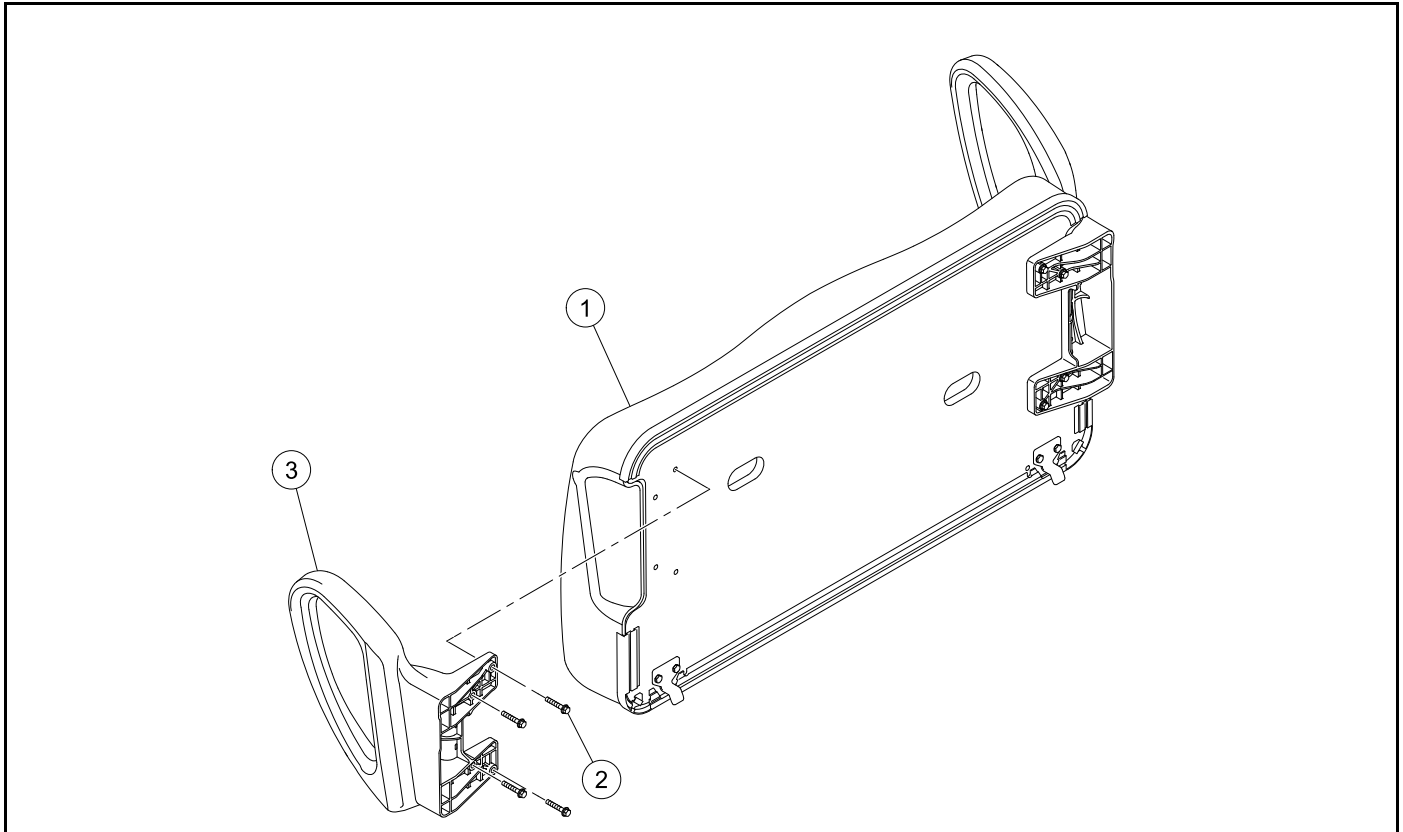

Figure 4-2 Hip Restraint
1. Remove the seat bottom (1) from the vehicle (**Figure 4-2**).
2. Remove the screws (2).
3. Remove the hip restraint (3).
1. Align the hip restraint (3) onto the seat bottom (1) (**Figure 4-2**).
2. Install the screws (2). Tighten the screws to 65 lb·in (7.3 N·m).